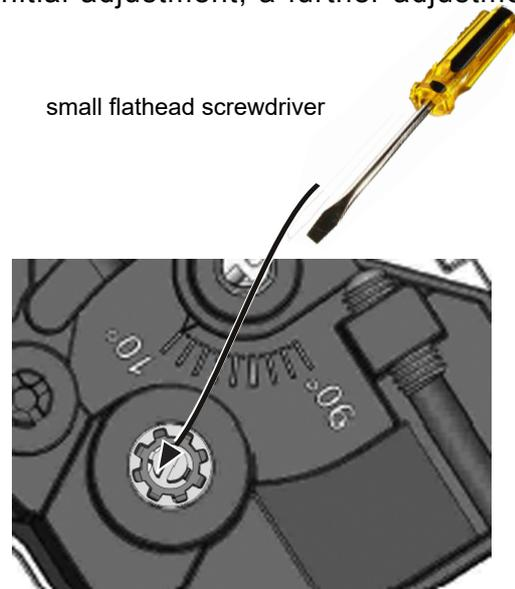

Figure 2.2
- B. Place screwdriver into the well and seat the screwdriver in the slot of the AFR screw (Figures 2.2 and 2.3)